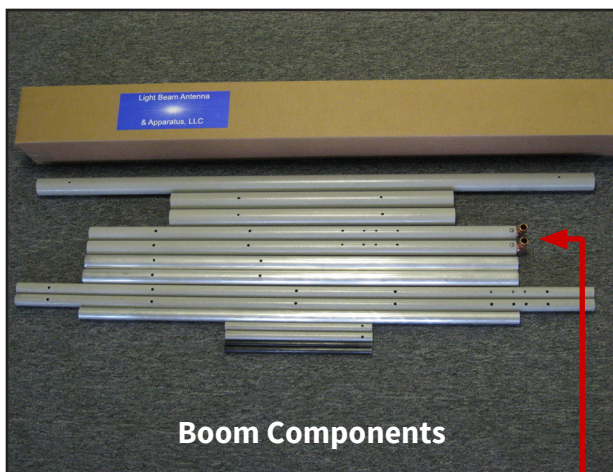

Fig. 1
- ☐ Separate boom components identified in Fig. 1 from all other tubes and rods. See the image and list on p. 1.